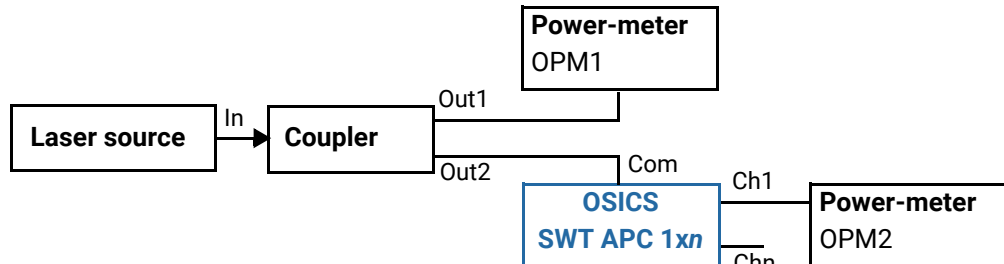

Figure 98: SWT APC Performance Test – Repeatability
2. Connect the measurement equipments as indicated on *Figure 98*, p. 139.